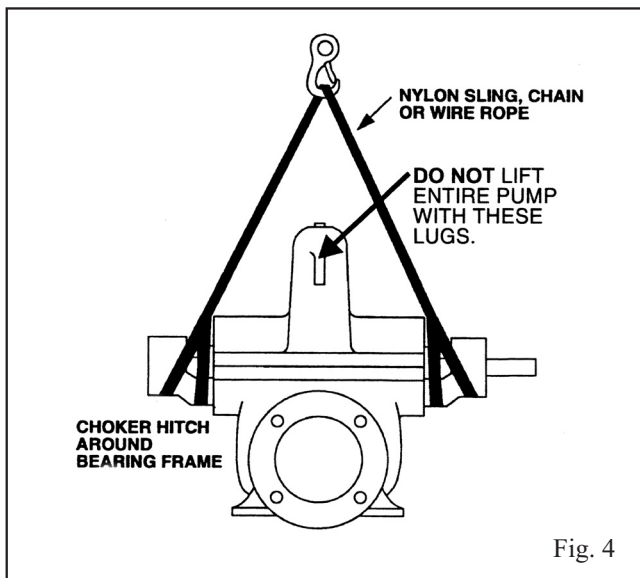

Fig. 4
1. Using a nylon sling, chain, or wire rope, hitch around both bearing housings. (See Fig. 4)